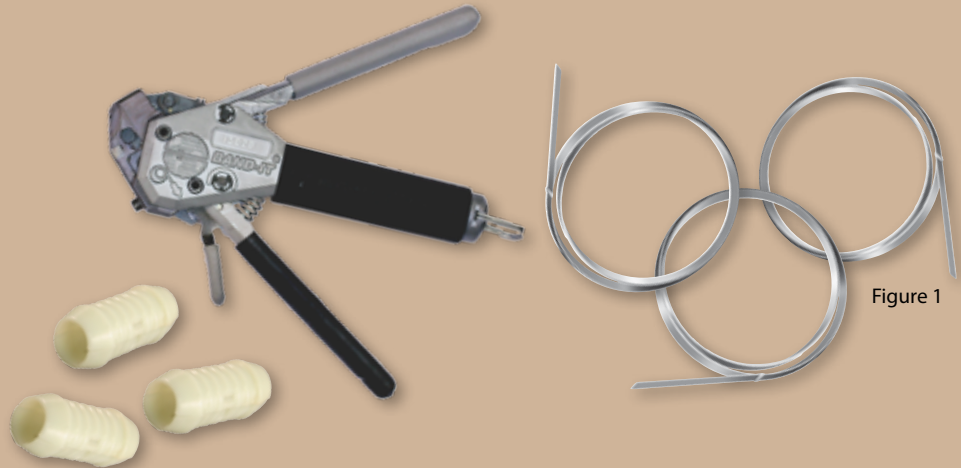

Figure 1
**IMPORTANT:** Always roll band through the buckle slot twice (see coiled band Figure 1). Bands must be double-coiled to function correctly. The failure to roll the band through the buckle slot twice is the most common user error in band style terminations.